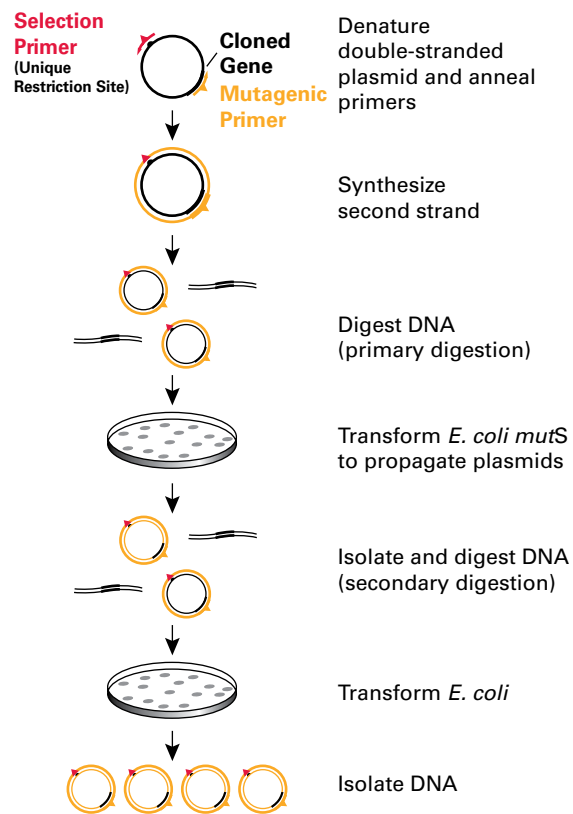

Figure 1. The Transformer Site-Directed Mutagenesis Kit method.
By allowing you to manipulate mutagenic conditions, Diversify PCR Random Mutagenesis Kit provides optimal mutagenesis of sequences over an exceptionally broad size range. Select mutation rates from two to eight mutations per 1,000 bp simply by varying the amounts of two key reagents—manganese (Mn^{2+}) and dGTP (Figure 1; 1, 2).
Figure 1. Mutation rates can be controlled by buffer conditions. Mutation rates for buffer conditions 1, 5, and 9 were obtained by extensive DNA sequencing (>15,000 bp each). Remaining mutation rates were standardized to sequencing data using an *in vivo* mutagenesis assay (3).
Figure 2. The Diversify PCR Random Mutagenesis Kit amplifies fragments as large as 4 kb. A 4 kb plasmid was amplified under the buffer conditions shown in Figure 1. Lanes 1–9 correspond to PCR buffer conditions 1–9. Lane M: DNA size marker.
The Transformer Kit uses two oligonucleotide primers that are simultaneously annealed to one strand of a denatured double-stranded template (Figure 1). One primer introduces the desired mutation and the other mutates the unique restriction site in the plasmid, creating a new restriction site or eliminating the site completely. Elongation by T4 DNA Polymerase, which lacks strand displacement activity, results in the incorporation of both mutations in the same newly synthesized strand. The DNA is then digested with a restriction enzyme that cuts at the original restriction site. The uncut, mutated DNA will transform *E. coli* more efficiently than the linear DNA with no mutations.
SMARTScribe has been shown to generate single-stranded cDNA transcripts of up to 14.7 kb. The enzyme's ability to synthesize long, full-length cDNA was demonstrated in reverse transcription PCR assays (RT-PCR; Figure 1) in which SMARTScribe RT was used to generate first-strand cDNA from total RNA. The resulting single-stranded cDNA was then analyzed via PCR reactions that generated 200–800 bp amplicons from the 5' region of a variety of genes (see Table I for a partial list), and visualized on an agarose gel (not shown; 1). The ability to produce long, high-quality transcripts makes SMARTScribe RT the enzyme of choice for all applications requiring long, full-length, first-strand cDNA.
Figure 1. SMARTScribe RT synthesizes long, full-length cDNA. SMARTScribe was used to reverse transcribe first-strand cDNA from Human Universal Reference Total RNA using oligo(dT)₁₈ primers. The resulting single-stranded cDNA was then analyzed by PCR using primers that generated 200–800 bp amplicons from the 5' ends of several genes. See Table I for a partial list of genes analyzed and the amplicon size generated from each. The successful generation of each amplicon indicates that SMARTScribe RT was able to synthesize single-stranded cDNA transcripts as long as 14.7 kb (from LRP2, Accession # NM_004525; 1).